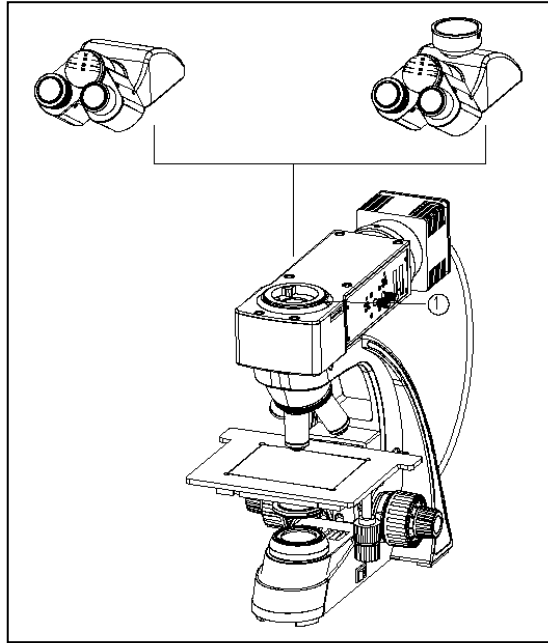

Fig. 4
1. Loosen the observation head locking screw ① on the epi-illuminator interface. (See Fig. 4)
2. Then, align the dovetail interface at the bottom of the observation head with the centre of the circular hole on the epi-illuminator, slightly tilting it to the left. Insert the head along the hole and tighten the locking screw ①.